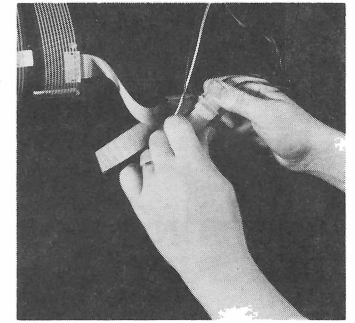

Figure 4. Attaching speaker harness
- Feed speaker connector up through the hole in base of top assembly and connect (Fig. 4).